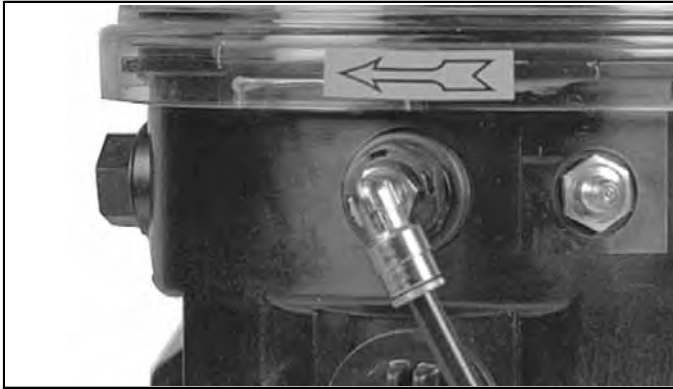

Fig. 6-1 Return Line Connection
- If the system is blocked, grease will leak from the pressure relief valve. This grease quantity is returned to the reservoir via the return line connection (fig. 6-1).